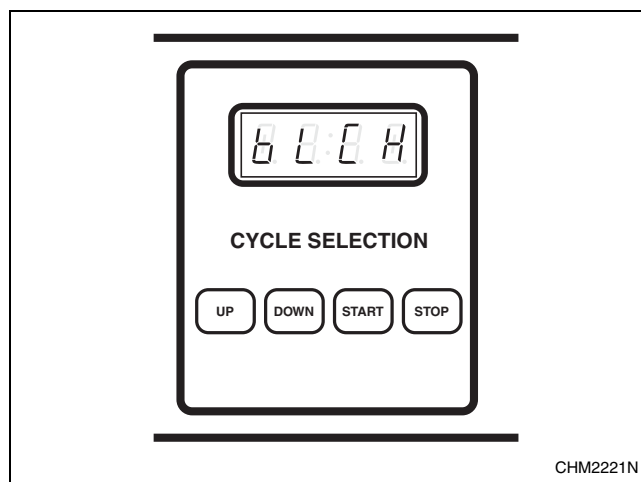

Figure 9
9. **When applicable,** add bleach to container 2 when the display reads “bLCH”. Refer to *Figure 9*.